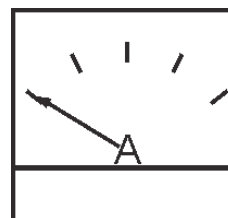

Figure 55. Ammeter (No Load)
13. The ammeter (Figure 55) will indicate zero amps with no load applied. When a load is applied, this meter will indicate the amount of current that the load is drawing from the generator.